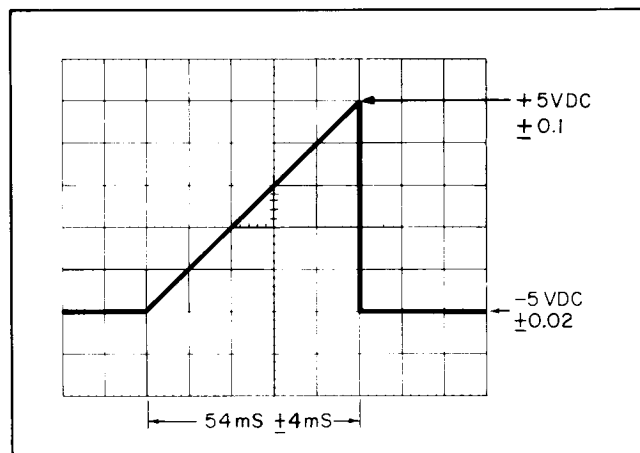

Figure 5-3. Scan Voltage Waveform Measurement
3. Observe and measure the SCAN IN/OUT waveform and compare it against the waveform shown in Figure 5-3. Rise time should be 54 ± 4 milliseconds.